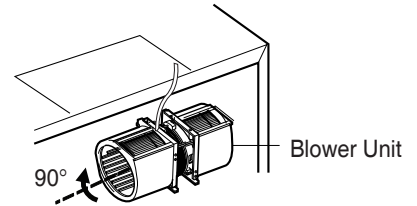

Figure 20
3. Rotate blower unit 90° so the exhaust ports face the top of the cabinet. See Figure 20.